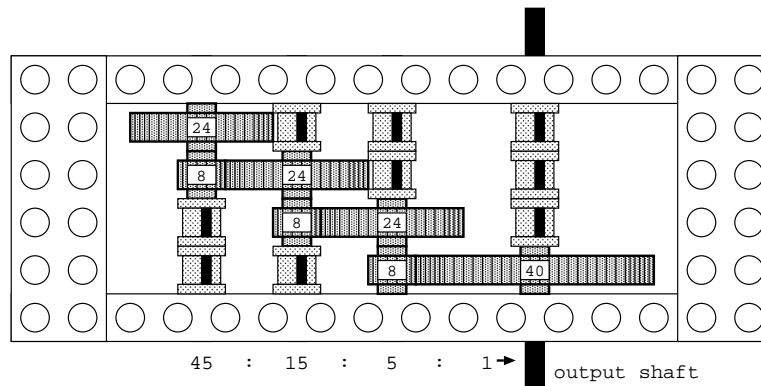

Figure 2: LEGO gearbox
- Calculating reduction.** The easiest way to calculate gear reduction is to first explain how everything is connected from the gear on the wheel axle to the last meshing gear. For example, with the gear train given in Figure 2 we can say: “There is a 40-tooth gear which meshes with an 8-tooth gear that is on the same axle as a 24-tooth gear, which meshes with an 8-tooth gear that is on the same axle as a 24-tooth gear, which meshes with an 8-tooth gear.” (The last 24-tooth gear is not meshing with anything, and so therefore does not affect the gear ratio. Although the motor would be meshing with that particular 24-tooth gear, when concerning gear ratios we only want to compare the first and last LEGO axles of the gear train.) Given this description, replace every “which meshes with” with \div and every “on the same axle as” with \times . Thus, the gear reduction is $40 \div 8 \times 24 \div 8 \times 24 \div 8 = 5 \times 3 \times 3 = 45 : 1$.